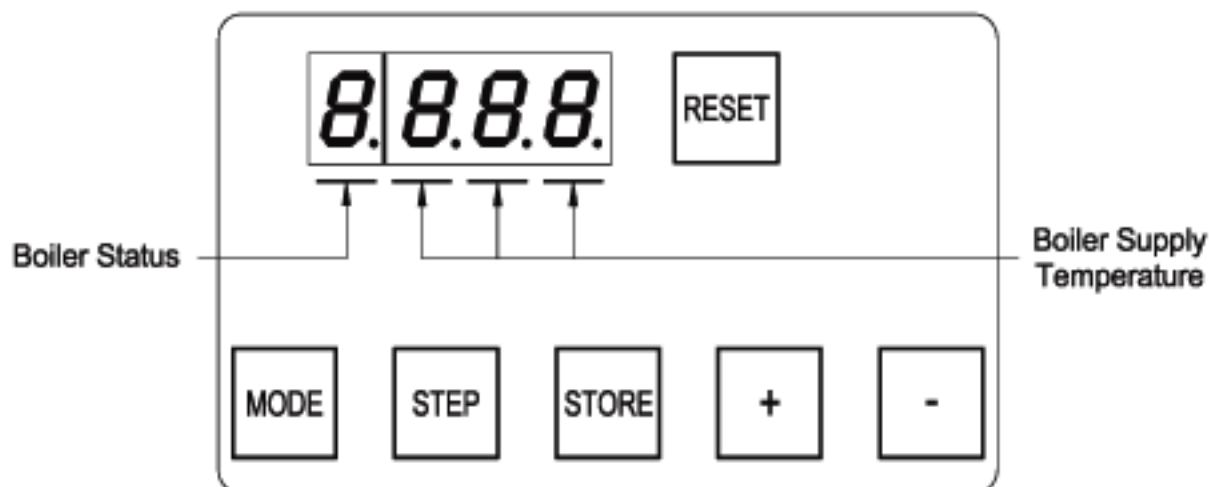

Figure 11.1: Normal Display In Standby Mode
Under normal conditions, the boiler is in standby mode and the display looks like that shown in Figure 11.1. The three digits to the right of the decimal point are the boiler's supply temperature. The digit to the left of the decimal point is the boiler's status code. A list of status codes, and their meanings, is shown in Table 11.3. Figure 11.2 is a map of the menu structure for the control panel. Push the mode key to move from one mode to the next. As you change modes, the mode you are entering is shown on the display:
- c) "Stby" for Standby Mode. Upon entering standby mode, "Stby" will briefly appear on the display and then the display will show the boiler's status along with the supply temperature (Figure 11.1).
Boiler not responding to call for heat, Status code on display = "0" (see Figure 11.1)	<ul style="list-style-type: none">• Boiler is not seeing call for heat. Check thermostat or zone wiring for loose connection, miswiring, or defective thermostat/zone control.